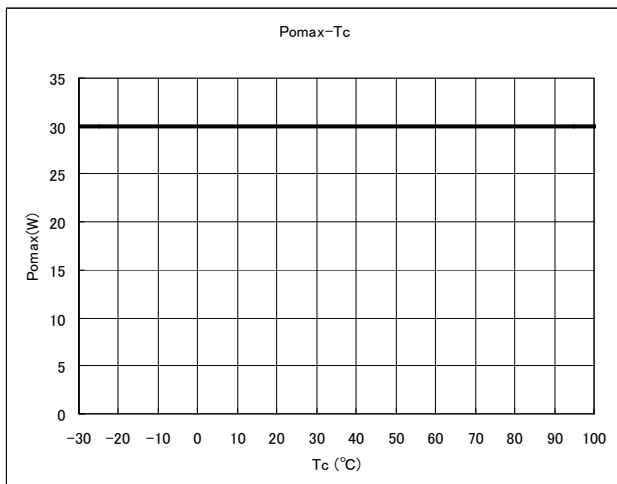
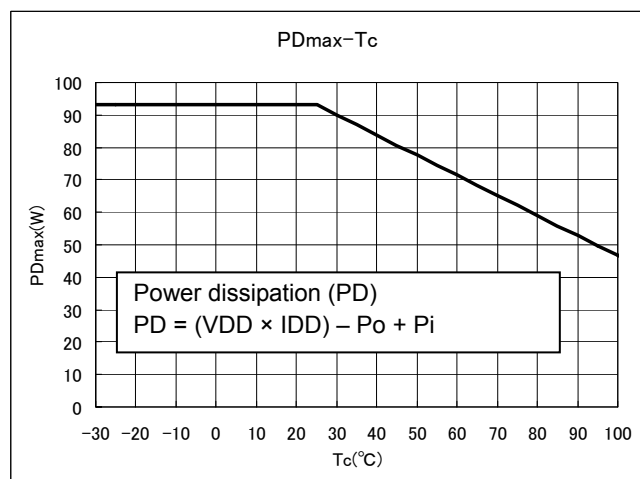

Figure 1 Pomax-Tc
Figure 2 PDmax-Tc
Note 2: The output power rating satisfies the range shown in Figures 1 and 2 according to the operating case temperature. Ensure that the device should be operated within the specified operating range. The figures below indicate the output power obtained 2 seconds after P_o is generated.
*When the device is used at $T_c = 100^\circ\text{C}$, the output power rating is 30 W as shown in Figure 1. When the power dissipation at $T_c = 100^\circ\text{C}$ exceeds the rating shown in Figure 2, the output derating is required to limit the dissipation within the specified range.
Note 5: The output power is intended to follow the rating provided in Figure 1 in Note 2.